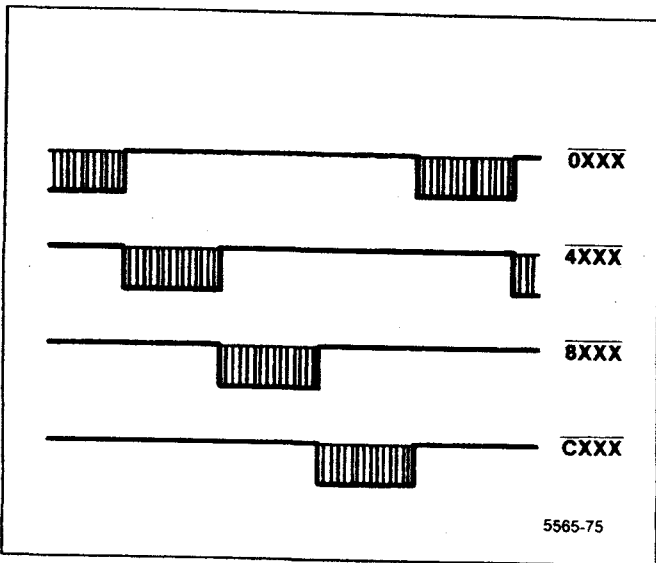

Figure 6-33. Four main block select outputs of address decoder U2045.
**Memory Address Decoders** — Address decoder U2045 on the Memory board sets its outputs low in turn to access blocks of memory space. The four main block-select outputs are shown in Figure 6-33.